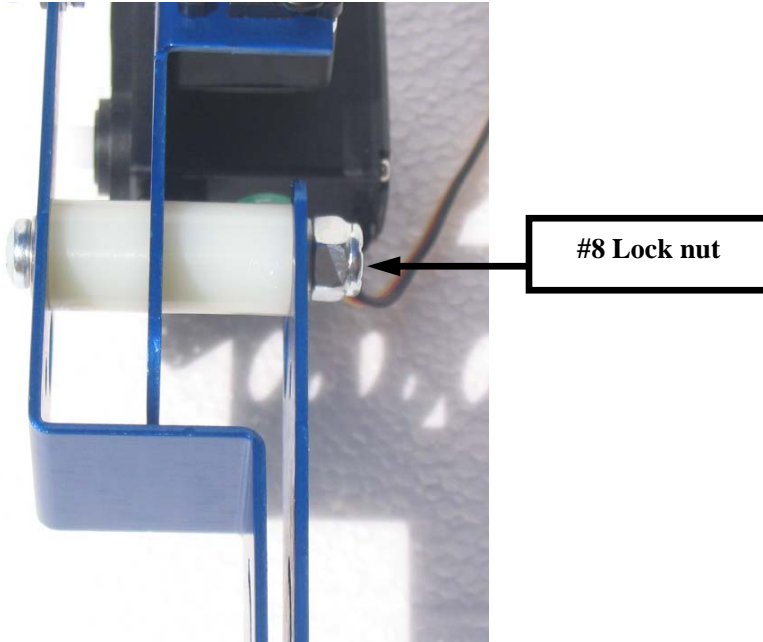

Figure 19B
- Loosen the #8 lock nut on the #8, 1.50" screw for each leg in your kit (figure 19b). Loosen the nut just enough so that the leg can move freely but not too much so that the legs nylon spacers are "loose" and the leg hardware displays a "rattle" when moved.